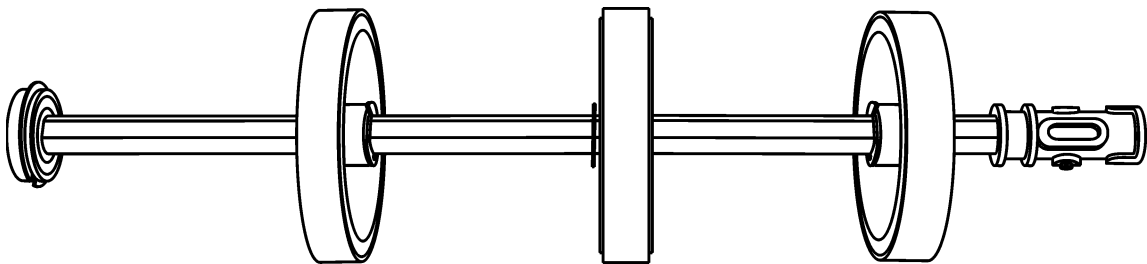

Figure 1
4. Remove the Drive shaft assembly by sliding it out through the rear frame according to figure 1.